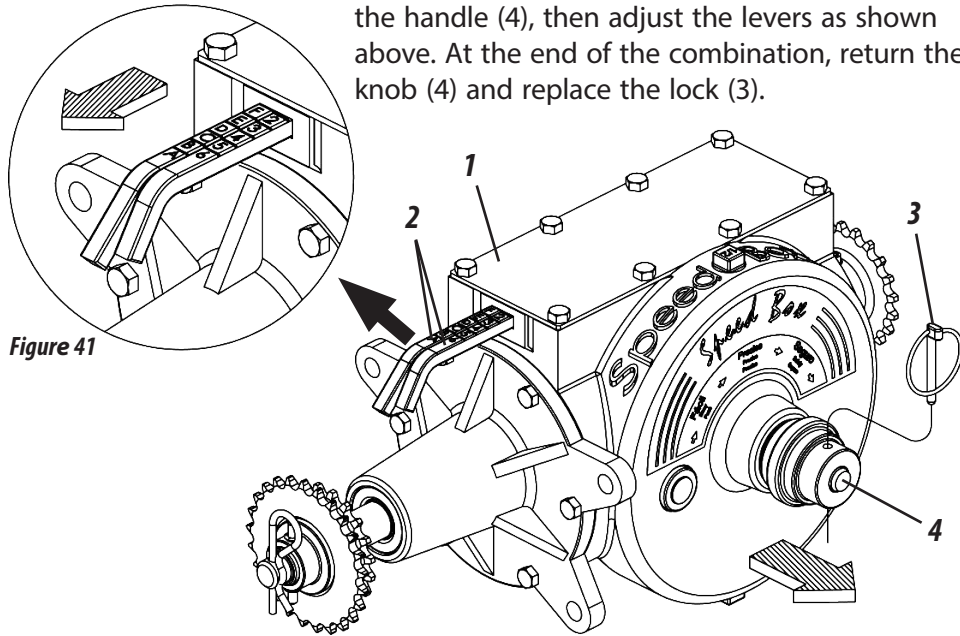

Figure 41
SPEED BOX (FIGURE 41)
1- Select the desired quantity in the tables and check the corresponding combination on the levers (2). **Example:** Position **F2** in the table, indicates that the lever with letters should be in position **"F"** and the lever with numbers must be in position **"2"**, as shown in figure 41